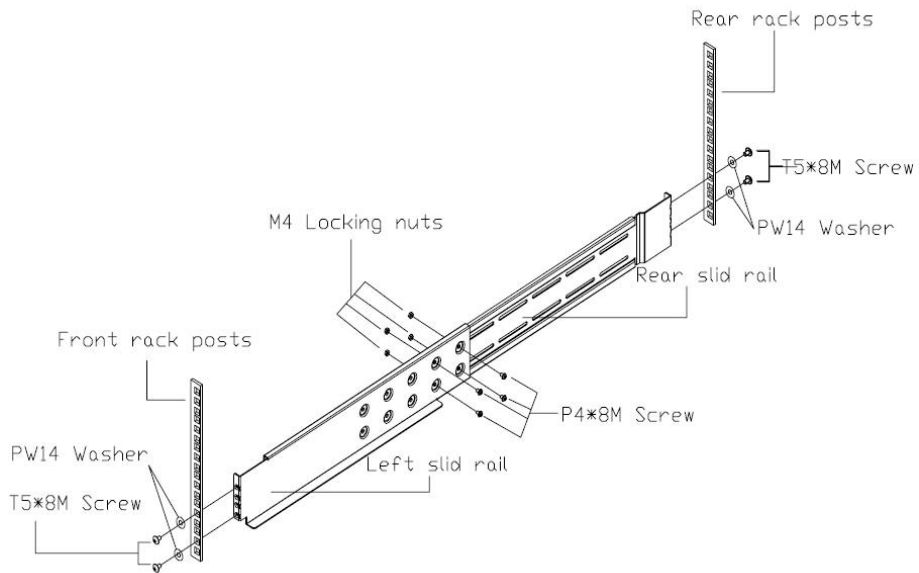

Figure 1.
3. Use T5*8M screws and PW14 washer to install the left slide on Front and rear Posts of Rack as Figure 1.